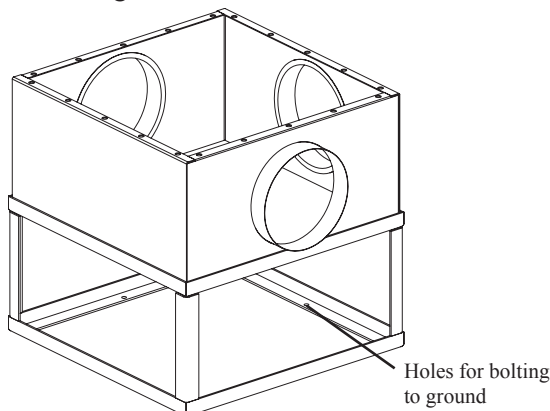

Fig. 1
5. Bolt the air cleaner to the floor in it's final location using the provided holes in the floor stand. (Fig 1).